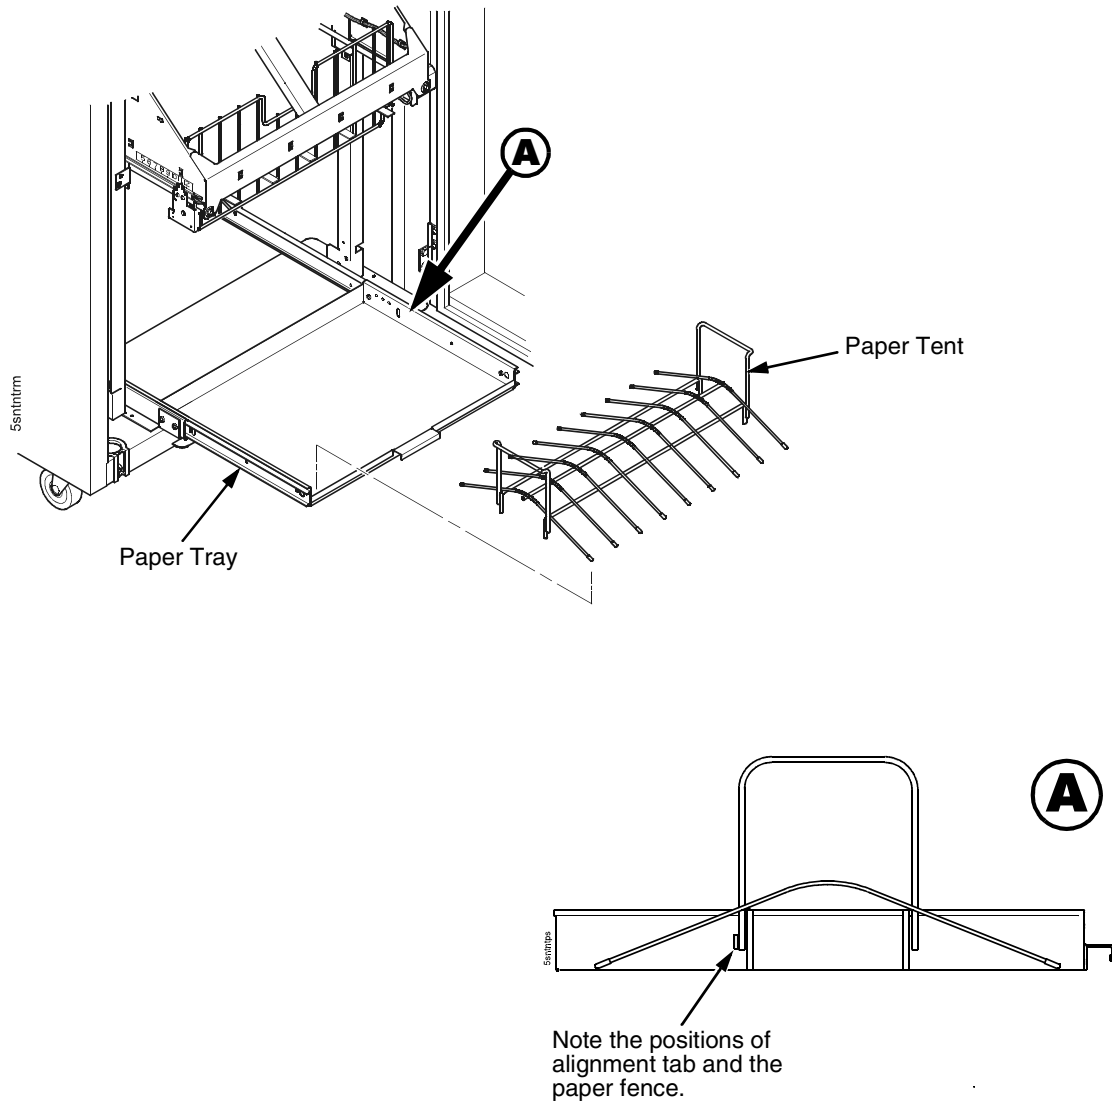

Figure 70. The Paper Tent
4. If the paper you will use is not wider than 15.5 inches (39.5 cm) pull out the paper tray and install the wireform paper tent. (Figure 70.) If the paper is wider than 15.5 inches (39.5 cm) leave the paper tent out of the printer.